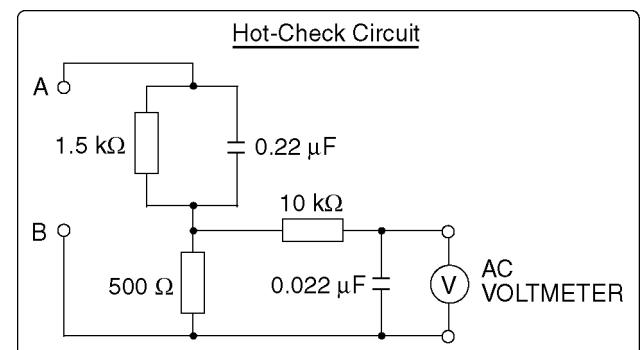

Figure 1
1.1.2. Leakage current hot check (See Figure 1)
2. Connect "A" to exposed metallic part on the set. And connect "B" to a good earth ground, as shown in Figure 1.